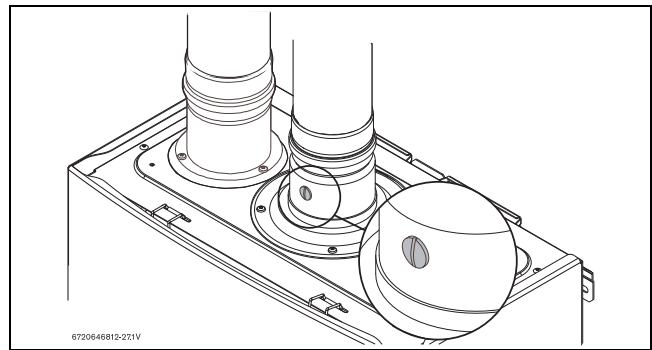

Fig. 67 Measuring port
- ▶ Remove brass flat head screw on the exhaust collar as seen in Fig. 67.